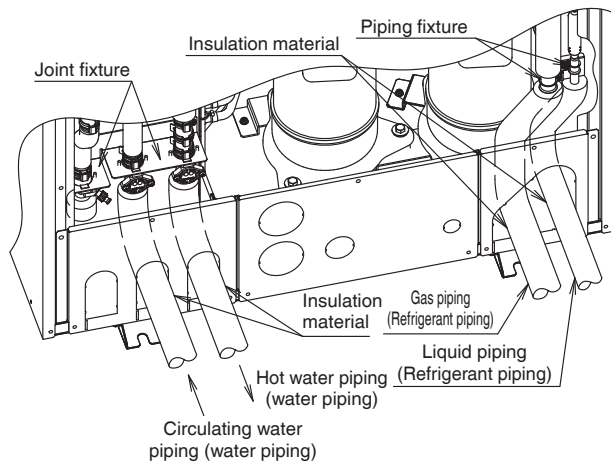

Fig. 30
- In order to protect the wiring from the gas piping which is a high temperature part, insulate the liquid piping and gas piping on the cascade unit side up to the piping fixture inside the unit. (refer to Fig. 30)
- Insulate the circulating water piping and hot water piping on the cascade unit up to the joint fixture inside the unit. (refer to Fig. 30)
- Fig. 30 show examples of the outlet of the heat source unit refrigerant piping. Perform the same procedure for the refrigerant piping and water piping outlet of the cascade unit.